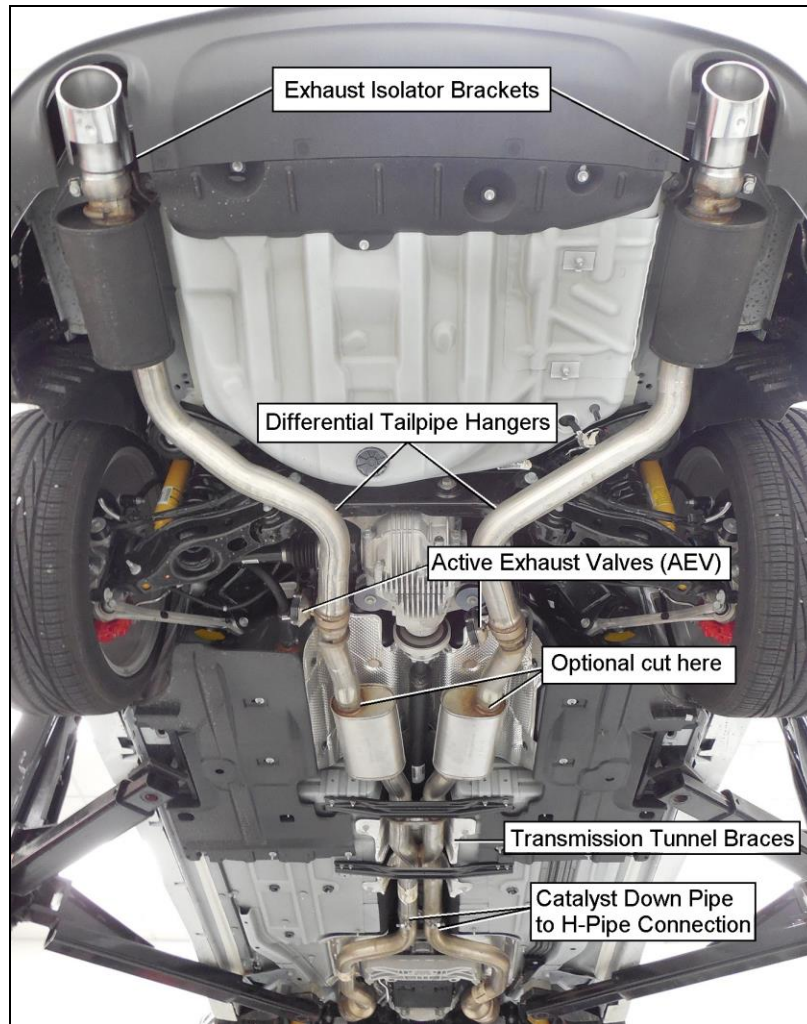

Figure 1
2. Support the left and right muffler assembly. Remove the bolts at the isolator brackets on the left and right tailpipes. Remove the bolts at the isolator brackets on the left and right differential hangers (See **Figure 1**)
3. Loosen the clamps on the H-Pipe where it connects to the catalytic converter down pipes and spray the connection with WD-40® (**Figure 1**).
NOTE: Cutting the tailpipes at the resonator will make removal much less difficult, but is not necessary (**Figure 1**).